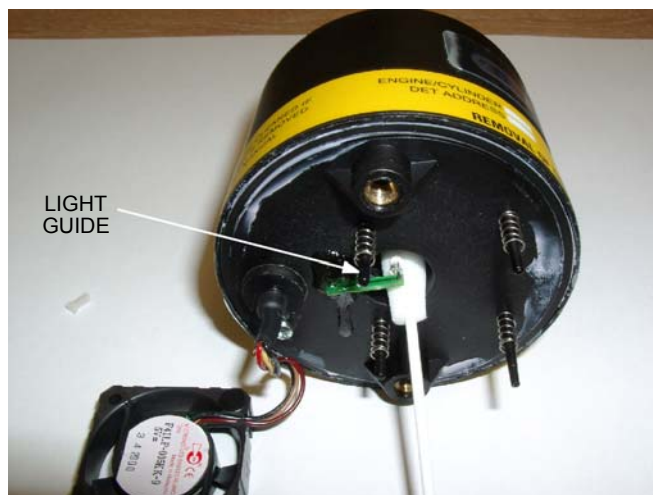

Figure 39: Cleaning Light Guide
8. Using a foam bud with glass cleaner applied, wipe carefully around the inside of the smoke detecting orifice and the end of the light guide (refer to Figure 39).